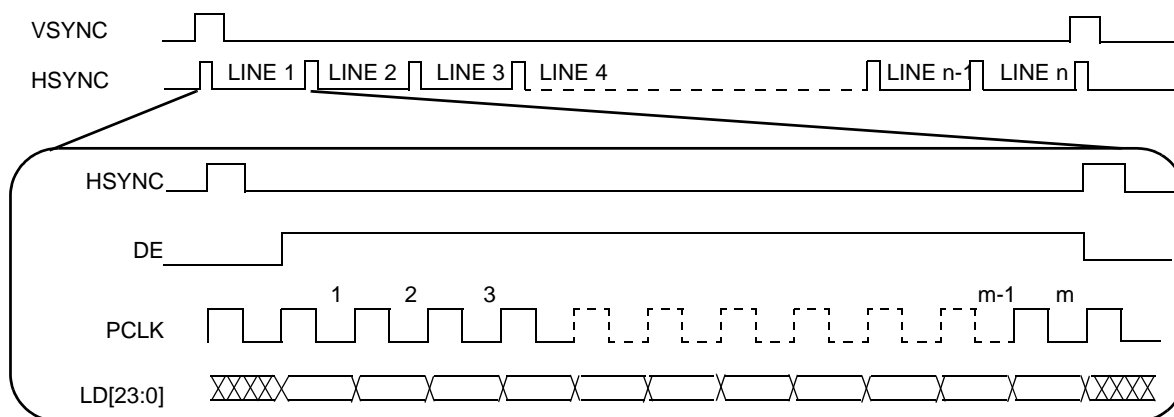

Figure 23. TFT LCD interface timing overview¹
Figure 23 depicts the LCD interface timing for a generic active matrix color TFT panel. In this figure signals are shown with positive polarity. The sequence of events for active matrix interface timing is:
1. In Figure 23, the “LD[23:0]” signal is “line data,” an aggregation of the DCU’s RGB signals—R[0:7], G[0:7] and B[0:7].